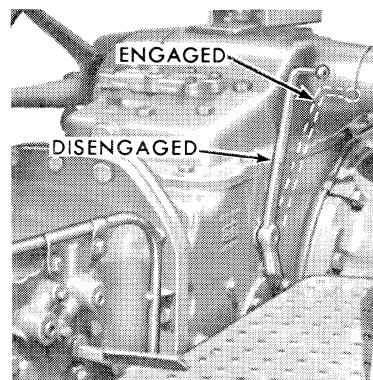

Figure 15
**Ford 5000:** The Select-O-Speed P.T.O. control lever, shown in Figure 15, is used to engage and disengage the P.T.O. on Ford 5000 Tractors. To engage the P.T.O., move the lever sharply rearward. To disengage the P.T.O., move the lever sharply forward. Refer to "Select-O-Speed Independent P.T.O. Operation" on page 19 for detailed operating instructions.